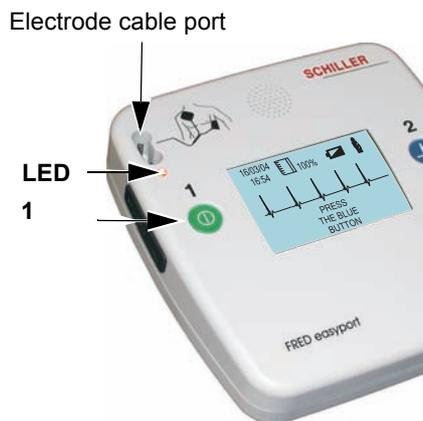

Fig. 4.3 Switch unit on
5. Connect the electrode cable to the unit. (See Fig. 4.3.) The yellow electrode indicator LED will go out as soon as the device is able to identify an acceptable electrode resistance. If the LED is not switched off, see section 4.3.3.